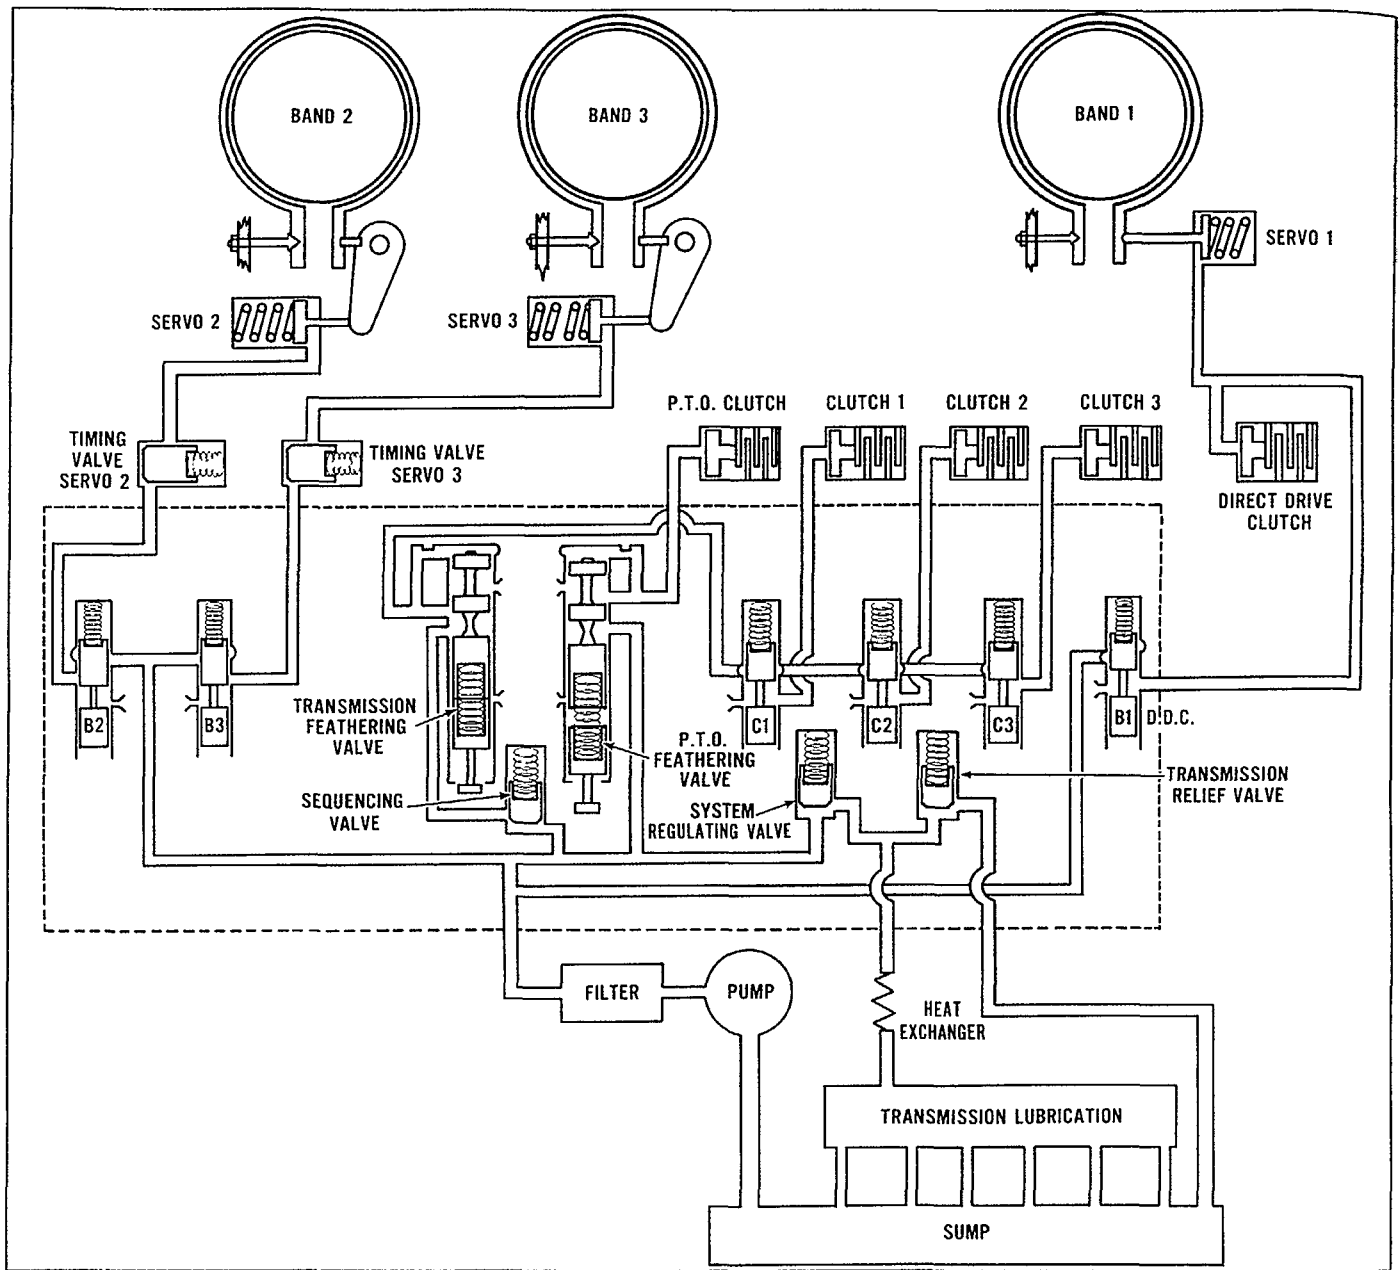

Figure 18
past the control valve assembly other than lubrication. Bands 2 and 3 are mechanically applied to hold the "C" planetary system and prevent any movement of the rear wheels. Figure 18 illustrates in schematic form the hydraulic system in park (P) position.